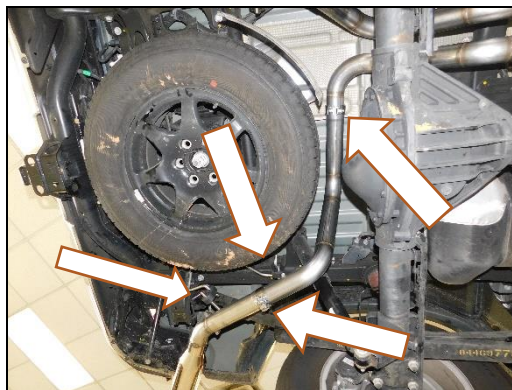

Figure 9
5. Install supplied (x2) rubber isolators and (x2) band clamps. Install the driver's side exhaust pipe and tailpipe (**Figure 9**).